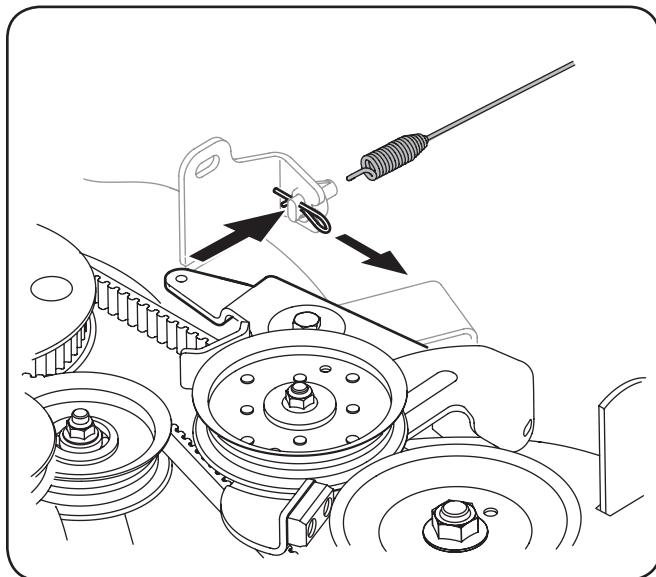

Figure 7-4
13. Pull the click pin out and unhook the drive spring cable from the idler arm assembly. See Figure 7-4.